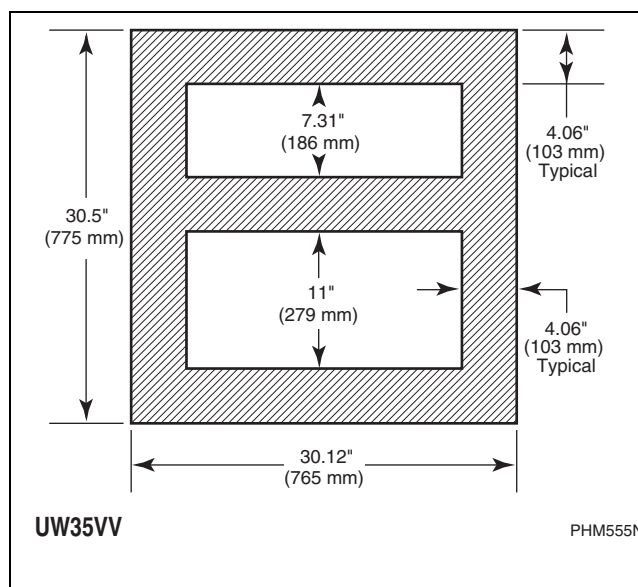

Figure 6
5. Fill the space between the washer-extractor base and the floor with a good quality non-shrinking machinery grout to ensure a stable installation. Grout completely under all frame members. (Remove front panel and expanded metal back panel to gain access to **all** frame members.) Refer to *Figures 6 through 9*. Force grout under machine base until all voids are filled.